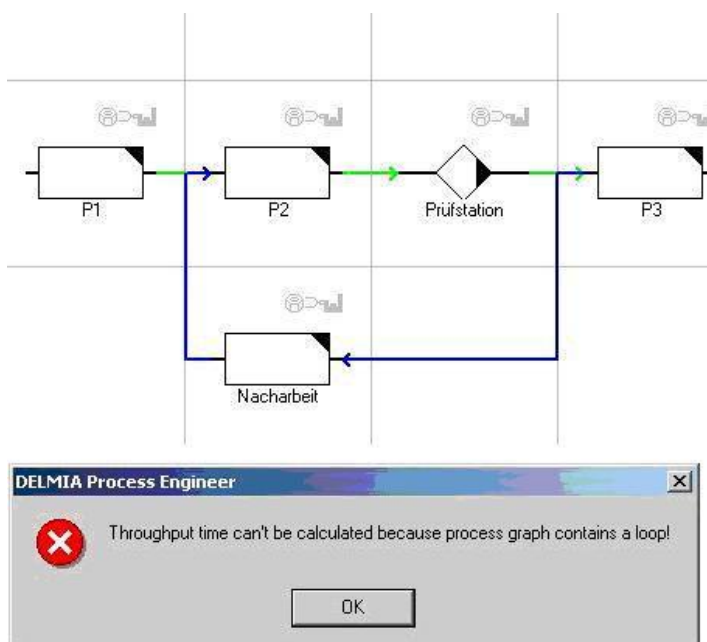

Figure 138: Example – No Critical Path due to a Loop in the Process Sequence
- The line marked in blue designates the loop that continues to be passed through during the calculation. *Please refer to the Figure 138.*